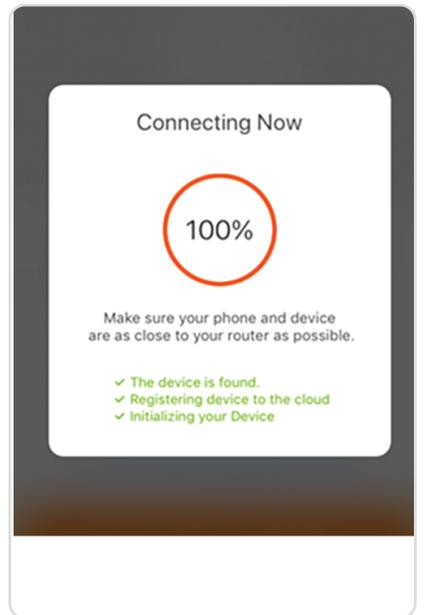

Fig. 5
- D) Wait for the app to connect to your device. as shown in Fig. 5